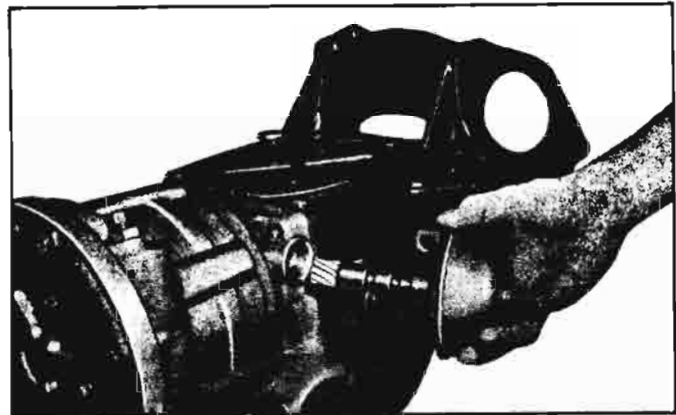

Fig. 6-12—Removing Governor
3. Remove the screw securing the governor assembly to the Transaxle and remove governor (fig. 6-12).